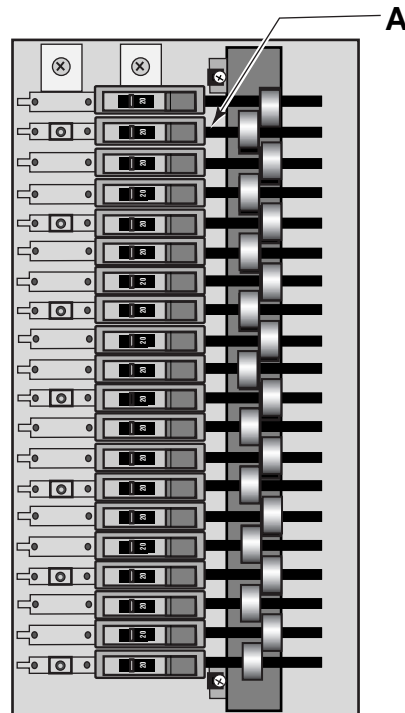

Figure 11: Pulling the cables
Current sensors accommodate #6 THHN sized conductor, 0.35 in. (9 mm) diameter maximum. Use insulated wire only. For each circuit breaker, pass the wiring through the corresponding current sensor and attach it to the load lug on the end of the circuit breaker as shown in Figure 11 (A). Observe local codes and the wire manufacturer's recommendations for bending radius.